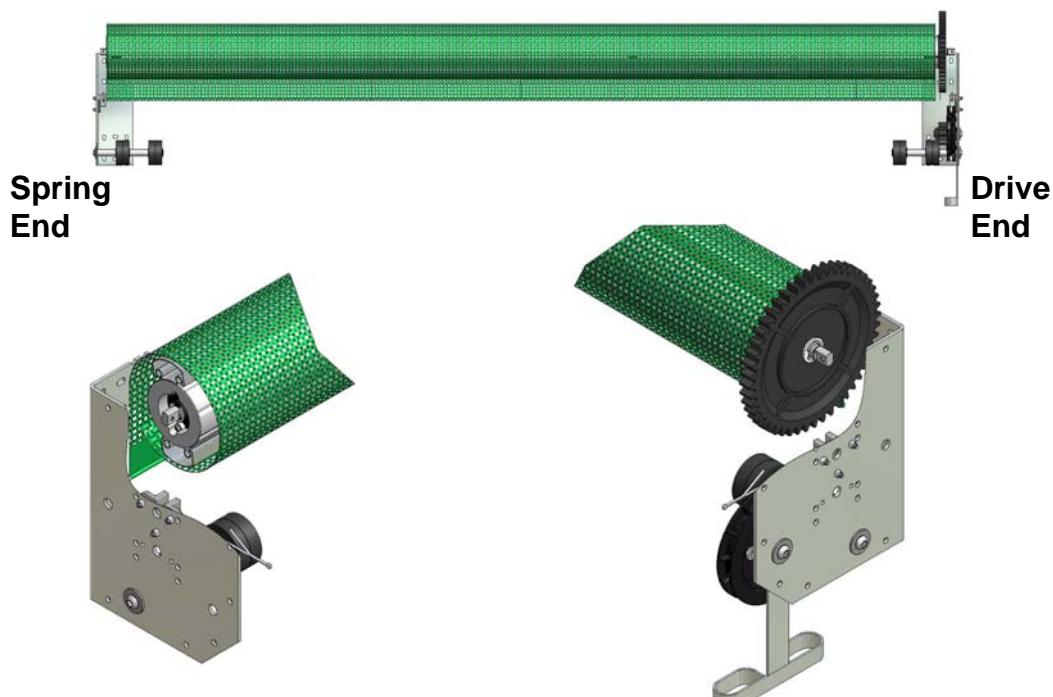

Figure 7, Locating Top Tube In Brackets (RH Drive Shown)
- When lifting the roller assembly onto the top brackets, ensure that the shafts slide completely into the base of the cup brackets (Figure 7). Lock the shafts in place with the M4 x 75 split pins supplied (Y1).